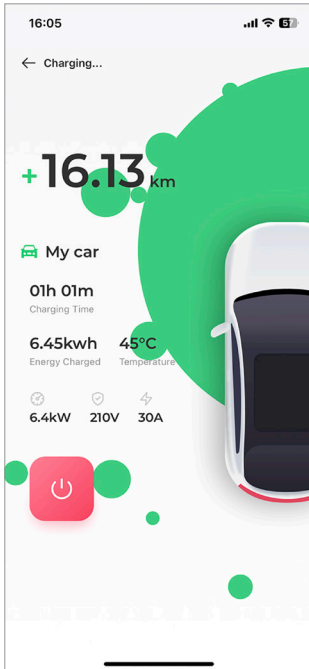
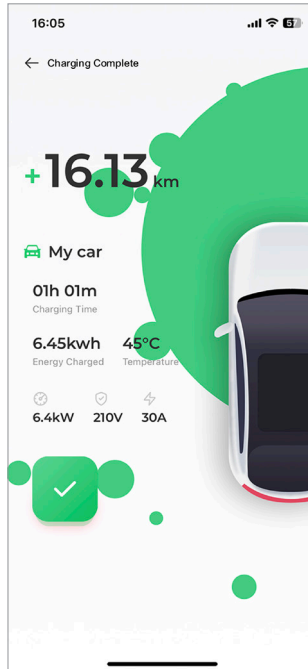
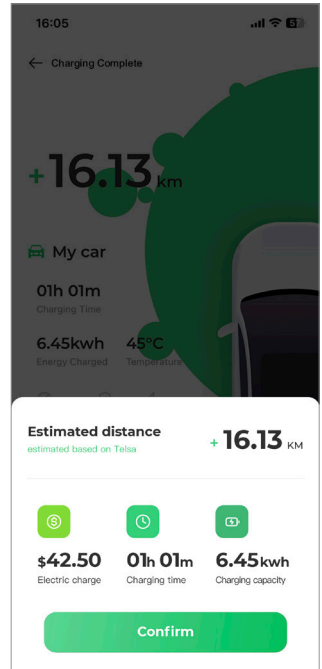

Fig. 6-14
Fig. 6-15
Fig. 6-16
2. You can check the charging status during charging. Tap the  icon to stop charging (See Fig. 6-14). The icon turns to  (See Fig. 6-15). Tap the  icon to view the charging details. (See Fig. 6-16)